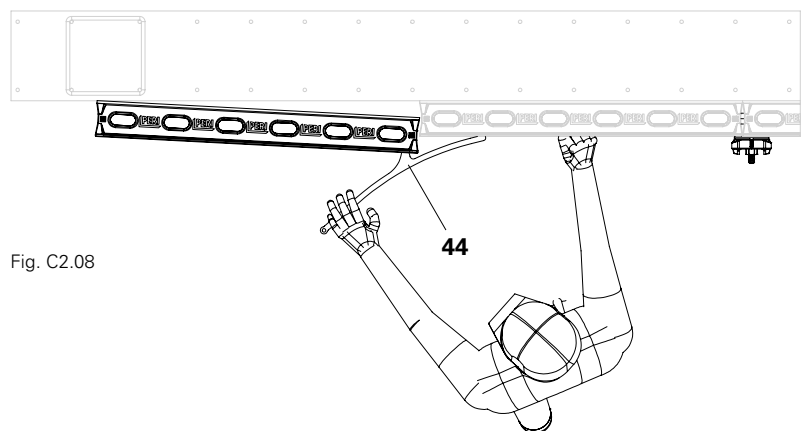

Fig. C2.08
- Use the DUO stripping lever (44) during the striking process (see section A4, under DUO stripping lever). (Fig. C2.08)